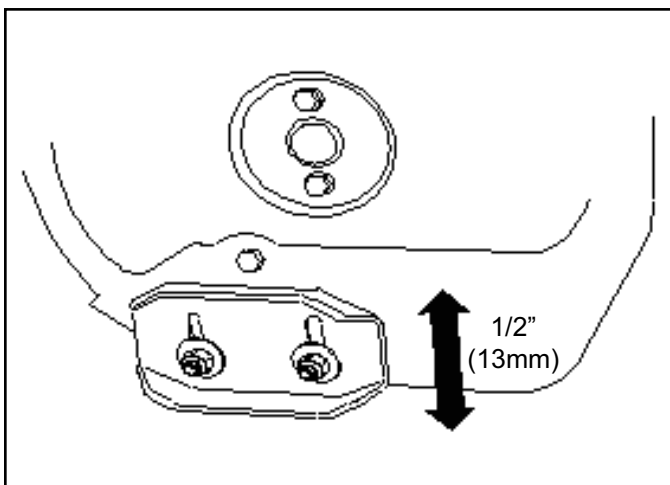

Fig 070
3. Support the side plates so they are at least $\frac{1}{2}$ " (13mm) above a level surface (Fig. 070).